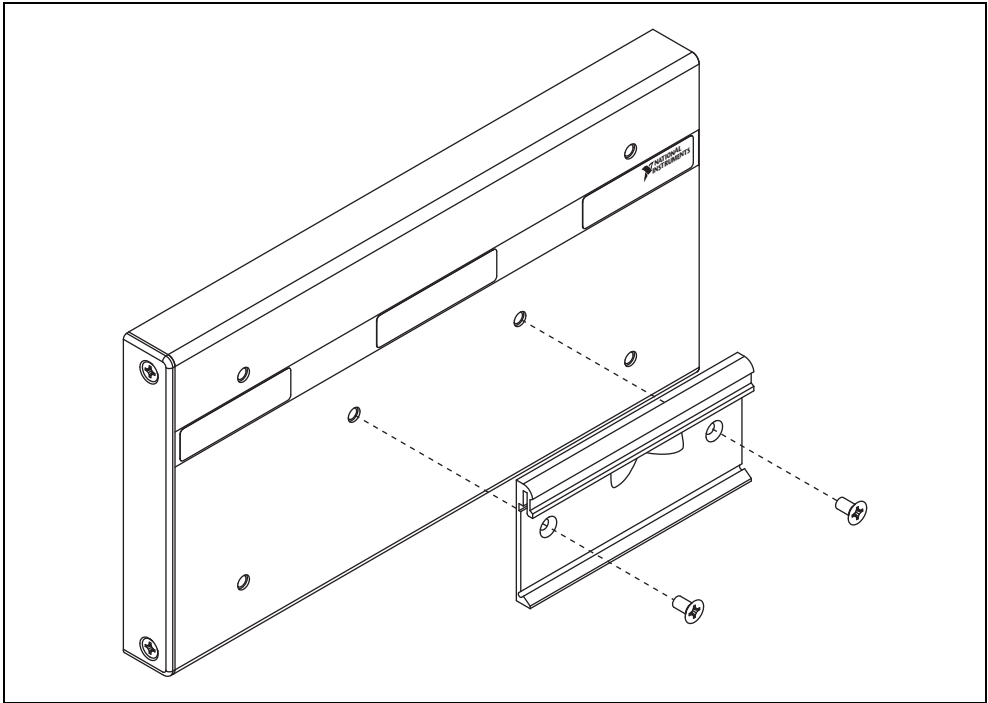

Figure 6. Fastening the DIN Rail Clip to the UMI-7774/72
1. Fasten the DIN rail clip to the UMI-7774/72 using a number 2 Phillips screwdriver and the two 8-32 × 0.25 in. countersink screws shipped with the DIN rail clip as shown in Figure 6. These screws have a nylon coating to prevent them from loosening.